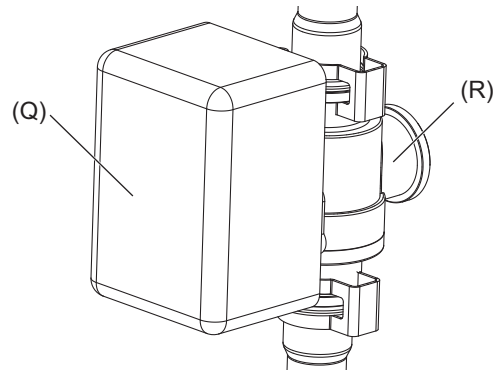

Fig.24
(1) Remove the cover (Q) of the FCV (R). (Fig. 24)